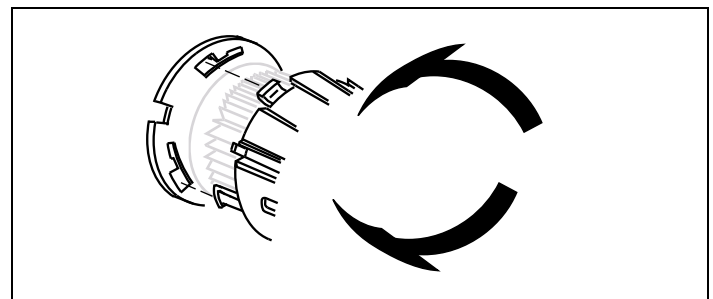

Figure 37. Tab Alignment
7. Line up tabs on cover with slots on flange. See Figure 37.